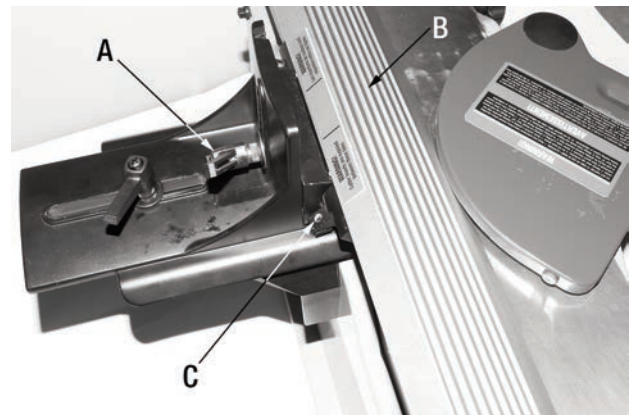

FIGURE 9
- 2) Loosen the fence tilt lock handle (A) Fig.9 by turning handle counterclockwise.
- 3) Lift the fence (B) slightly above the table and tilt it to the desired position.
- 4) The adjustable positive stop (C) can be used to quickly set the fence to 45°.
- 5) With the fence set to the desired angle, retighten the fence tilt lock handle (A) by turning handle clockwise. Make sure this is done before jointing the workpiece.